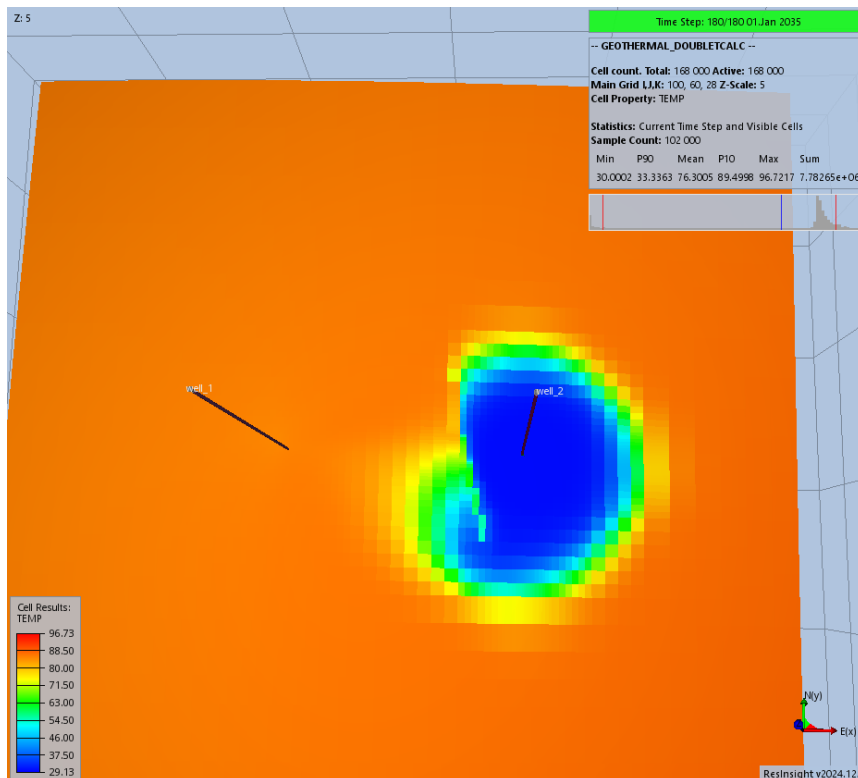

Figure 14: ResInsight '3D View' for the Geothermal Demo model from the top
8. When viewing from above (Range filter, select K Start '12') the effect of the fault can be displayed, see Figure 14.